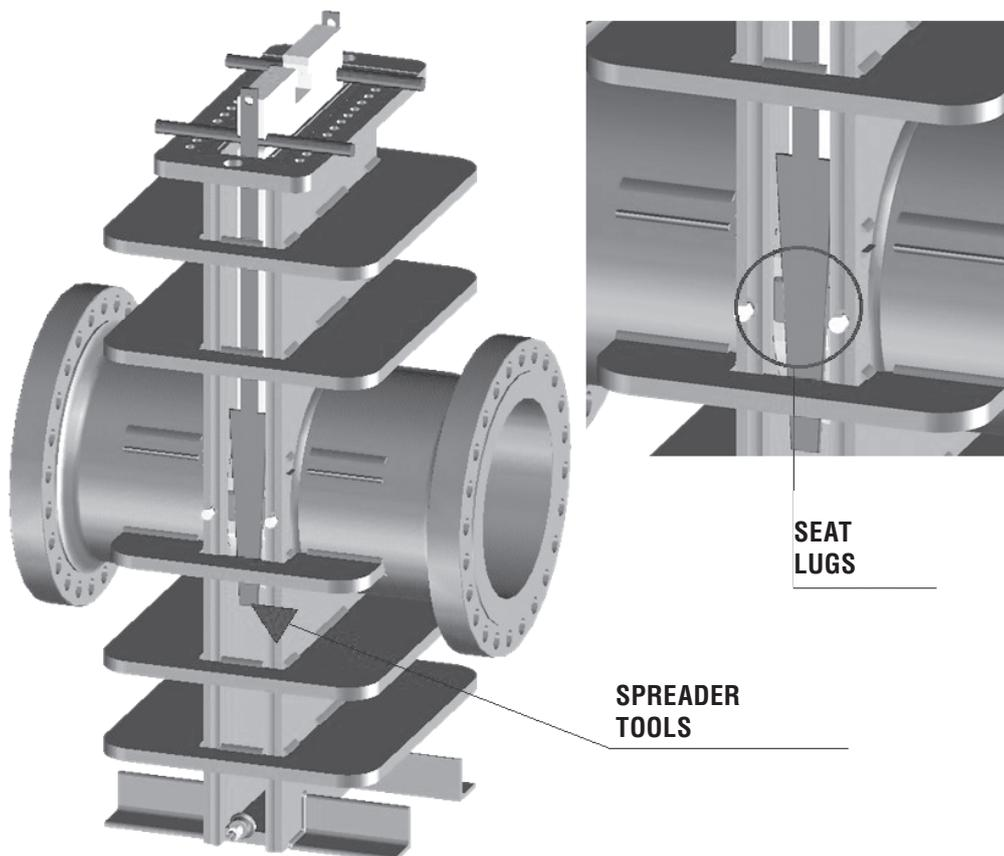

**Figure 12 - Stem head disengaging.**
15. Move sidwise the stem releasing the stem head from its housing in the gate (Figure 12)
16. Remove stem and seat grease fittings (19 and 16) and the vent fitting (18) from the bonnet, to clean.
17. While the slab still inside the body supported as shown in Figure 12, screw an male eyebolt in the tapered hole placed at the guide upper surface (Figure 13). By means of a crane, lift the guide until its complete disengagement from the body. Repeat the same procedure for the gate at the opposite side – N°2.